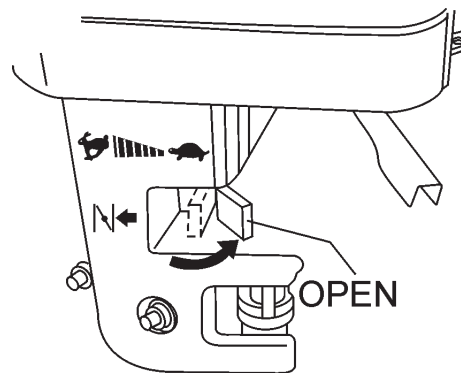

Figure 14. Engine Choke Lever (Open)
4. Place the **choke lever** (Figure 14) in the "OPEN" position if starting a **warm engine** or the **temperature is warm**.